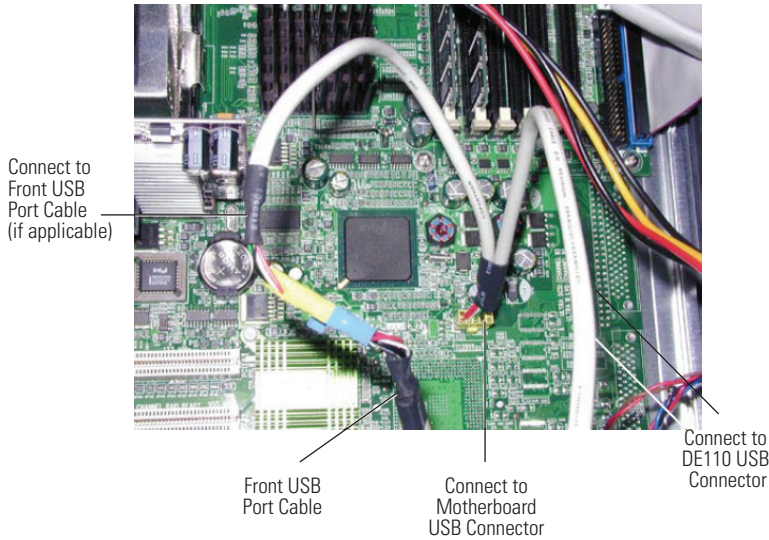

Figure 3: Connecting the Split USB Cable to the System
4. Locate a spare 9-Pin USB connector on the system motherboard and connect the female connector on the split USB cable (provided) to it (figure 3).
5. If your system motherboard has only one 9-Pin USB connector and it is connected to the front USB ports, disconnect the front USB port cable from the system motherboard USB connector. Connect the female connector on the split USB cable (provided) to the newly vacated USB connector located on the system motherboard (figure 3). If applicable, connect the male connector on the split USB cable to the front USB port cable (figure 3). Make sure the red wires on both cable are correctly aligned.